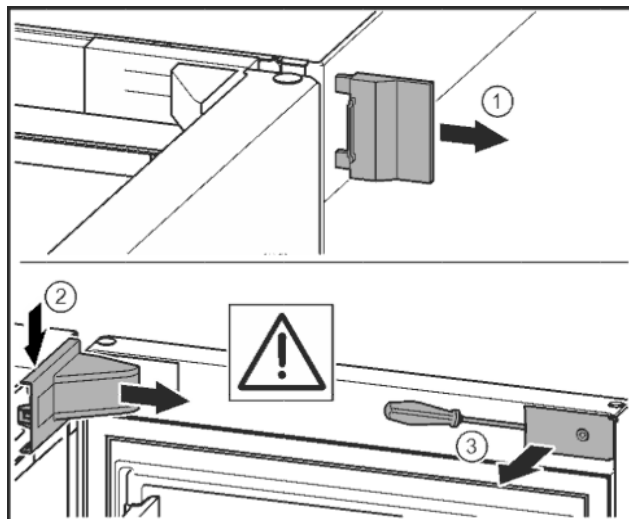

Fig. 6
- Remove the outer cover. Fig. 6 (1)
- Click and release the bearing bracket cover. Remove the bearing bracket cover. Fig. 6 (2)
- Unlatch the cover plate with a slotted screwdriver and swivel it to one side. Fig. 6 (3)